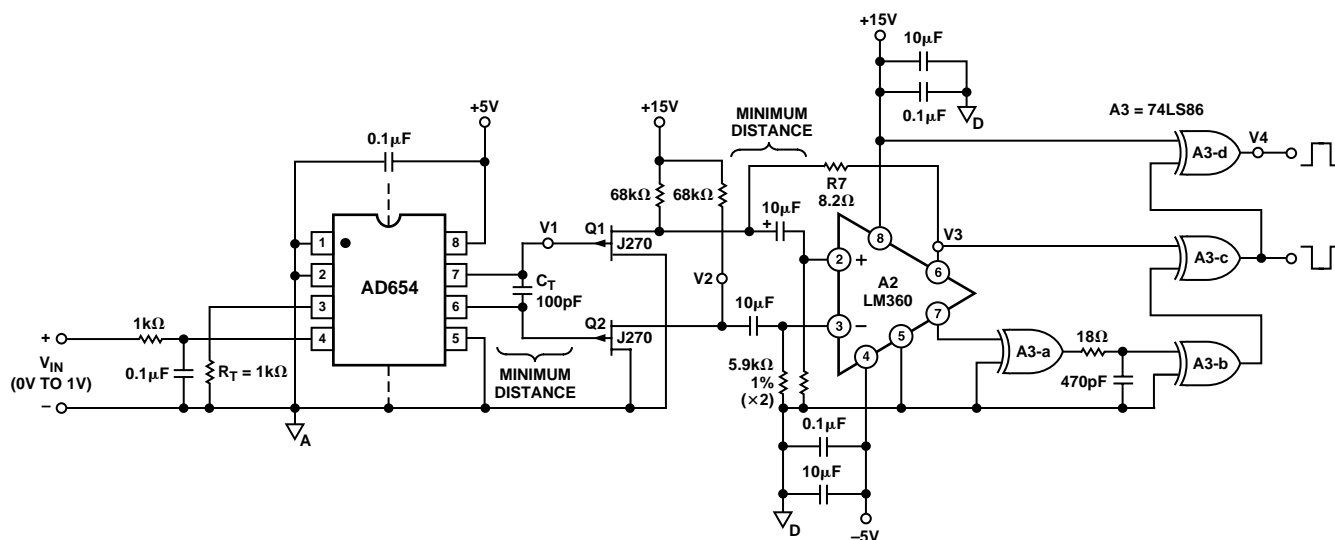
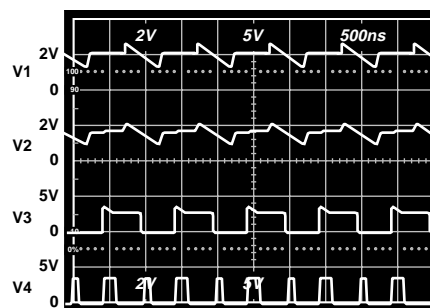

Figure 13. 2 MHz, Frequency Doubling V/F
Figure 14. Waveforms of 2 MHz Frequency Doubler
Figure 13 illustrates this with a circuit offering 2 MHz full scale. In this circuit the AD654 is operated at a full scale (FS) of 1 mA, with a C_T of 100 pF. This achieves a basic device FS frequency of 1 MHz across C_T . The P channel JFETs, Q1 and Q2, buffer the differential timing capacitor waveforms to a low impedance level where the push-pull signal is then ac coupled to the high speed comparator A2. Hysteresis is used, via R7, for nonambiguous switching and to eliminate the oscillations which would otherwise occur at low frequencies.
The net result of this is a very high speed circuit which does not compromise the AD654 dynamic range. This is a result of the FET buffers typically having only a few pA of bias current. The high end dynamic range is limited, however, by parasitic package and layout capacitances in shunt with C_T , as well as those from each node to ac ground. Minimizing the lead length between A2-6/A2-7 and Q1/Q2 in PC layout will help. A ground plane will also help stability. Figure 14 shows the waveforms V1-V4 found at the respective points shown in Figure 13.